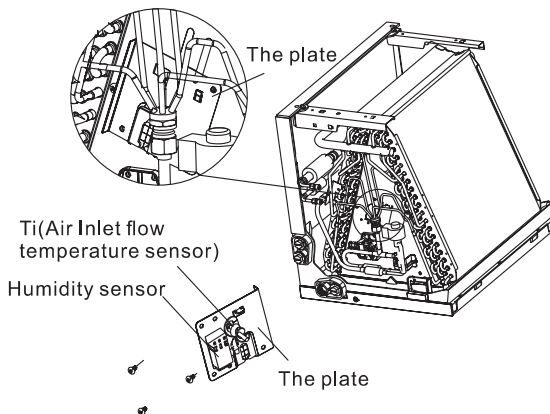

Fig. 6
- (6) Remove the wiring clamps and remove the plate from the evaporator, then remove Ti(Air inlet temperature) and Humidity sensor. (Refer to Fig.6)